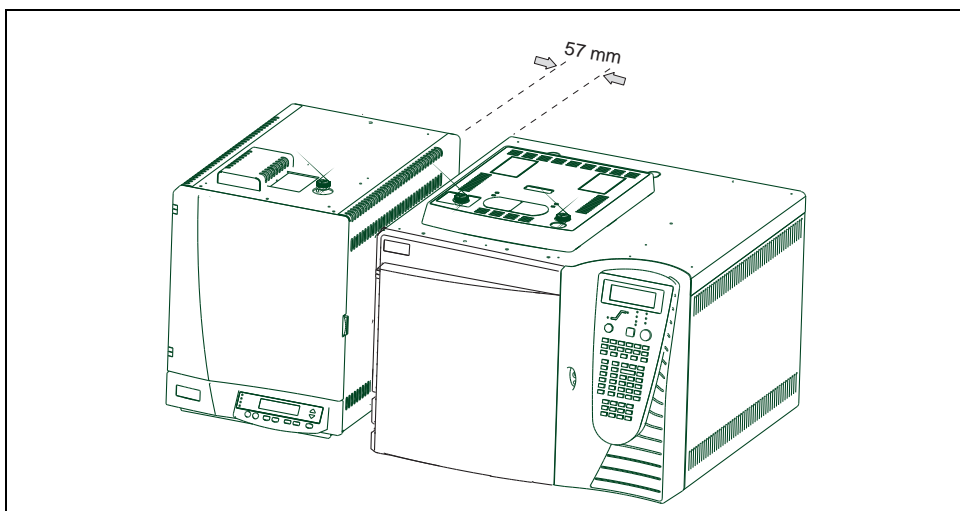

Figure 3-12. TRACE GC Ultra and FOCUS GC Placing
1. Place the FOCUS GC on the **left** and the TRACE GC Ultra on the **right** leaving a distance of about 57 mm between the two GC units as shown in Figure 3-12.